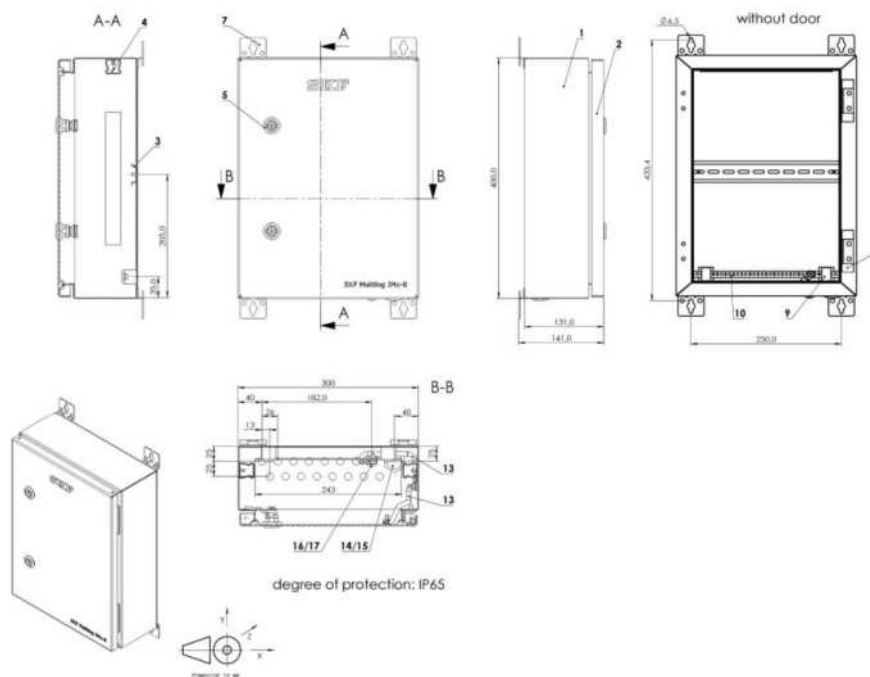

Figure 20 CMON 4150 cabinet with pre-drilled gland area
In the pre-drilled cabinet, the lower, short, wall is predrilled for 17 glands: refer to Figure 20 for the drilling pattern/arrangement. One entry for a M25 x 1.5 mm gland (shown as drawing item 14/15) and sixteen entries for M12 x 1.5 glands (typified by drawing item 16/17), are provided. All (17) cable entries are supplied with blind plugs fitted, only remove those that will be actively used for cabling and cable glands.